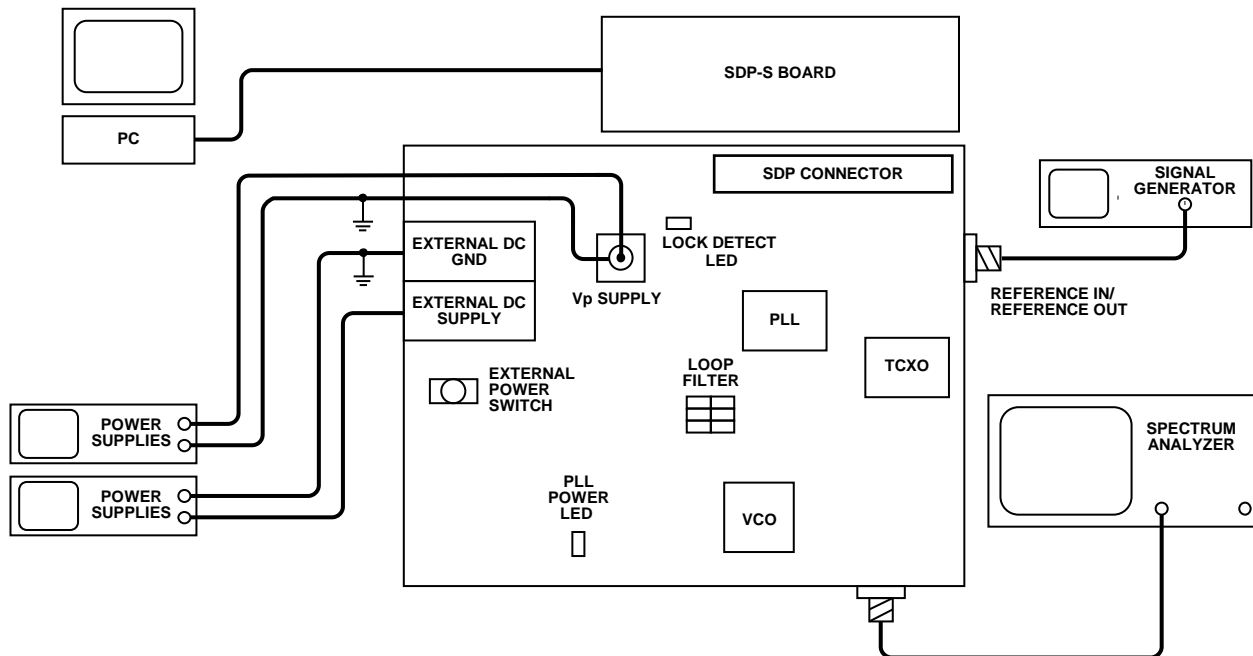

Figure 20. Typical Evaluation Setup
6. From the **Main Controls** tab in the main window of the evaluation board software, set the desired frequency in the **RF VCO Output Frequency** text box. Set the **PFD Frequency** text box to 1000 kHz, and program the **Reference Frequency** text box to 25 MHz. See Figure 20 for the suggested measurement setup.